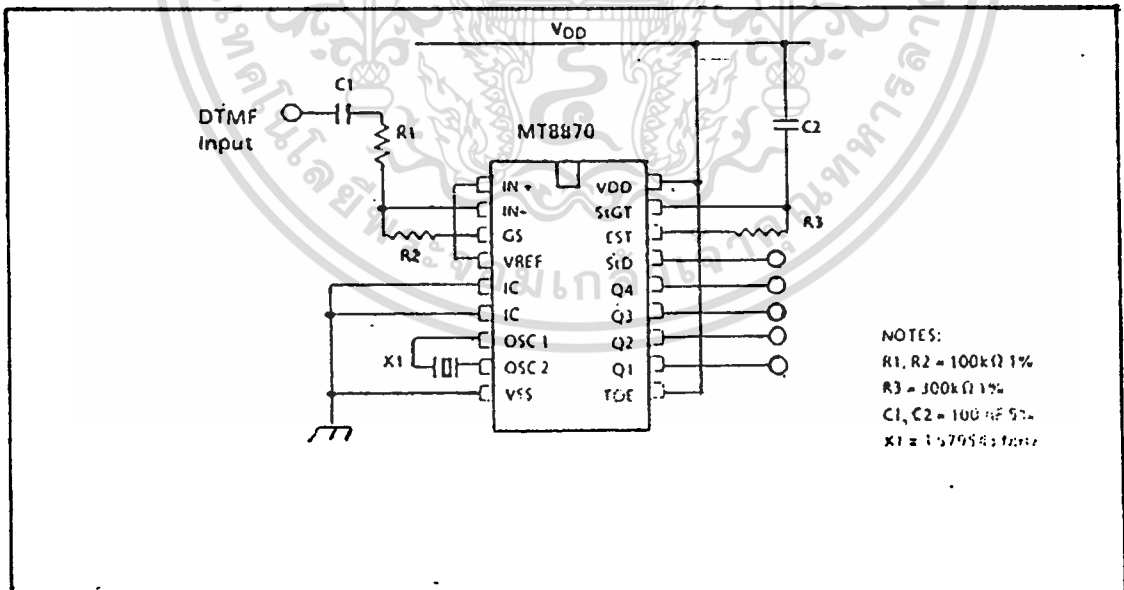
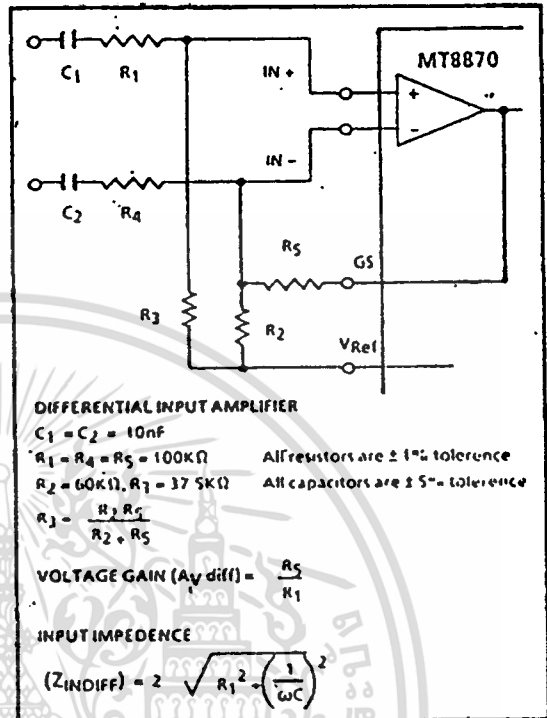
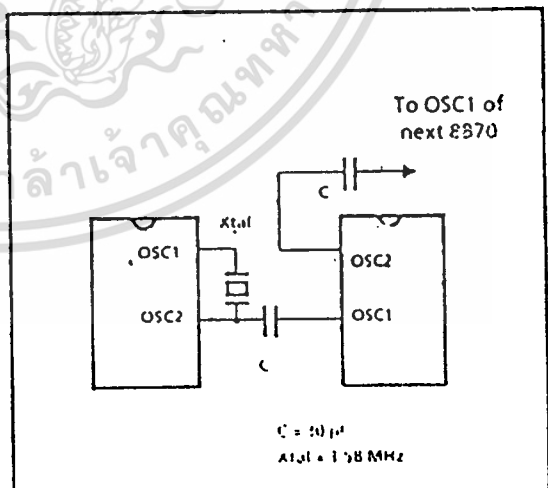

Figure 2. Single Ended Input Configuration†
Figure 8. Differential Input Configuration
Figure 9. Oscillator Connection
† VDD = 5 V, VSS = 0, TA = 25° C and fc = 3.579545 MHz using test circuit shown in Figure 2
† VDD = 5V, VSS = 0V, TA = 25°C and fC = 3.579543 MHz, using test circuit in Figure 2
The input arrangement of the MT8870 provides a differential-input operational amplifier as well as a bias source ( $V_{REF}$ ) which is used to bias the inputs at mid-rail. Provision is made for connection of a feedback resistor to the op-amp output (OS) for adjustment of gain. In a single-ended configuration, the input pins are connected as shown in Fig. 2 with the op-amp connected for unity gain and  $V_{REF}$  biasing the input at  $1/2 V_{DD}$ . Fig. 8 shows the differential configuration, which permits the
The internal clock circuit is completed with the addition of an external 3.58 MHz crystal and is normally connected as shown in Figure 2 (Single Ended Input Configuration). However, it is possible to configure several MT8870 devices employing only a single oscillator crystal. The oscillator output of the first device in the chain is coupled through a 30 pF capacitor to the oscillator input (OSC1) of the next device. Subsequent devices are connected in a similar fashion. Refer to Fig. 9 for details. The problems associated with unbalanced loading are not a concern with the arrangement shown, i.e. precision balancing capacitors are not required.